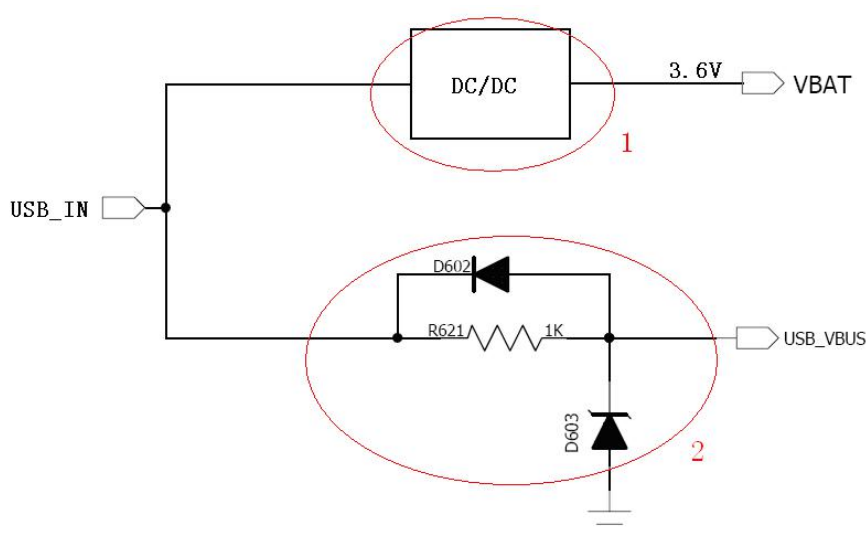

Figure2-8 The reference of voltage protection circuit
4) The USB interface input the voltage from USB_IN. For keeping the USB in U9507E module working unfaithfully, a voltage protection circuit should be added by user between the USB_IN of USB interface and the USB_VBUS PIN of U9507E. It is shown in figure 2-8 with the red circle 2. In the voltage protection circuit, D603 is a Zener diode with a breakdown voltage value of 5.1v which could keep the voltage on the USB_VBUS PIN of U9507E not more than 5.1v. D602 is a Schottky Diode, and R621 is a resistor with the value 1K Ω . On the other hand the voltage coming from the USB_IN also could be converted by using a DC/DC converter to 3.6v and then be sent to VBAT PIN of U9507E. It is shown in figure 2-8 with the red circle 1.
- 2) For avoiding the instantaneous voltage overflowing, the resistor with the reference value 22 Ω can be used for the DATA, CLK and RST. Just like the resistors R307, R308 and R309 in figure 2-8.
- 3) For avoiding the electro-static in USIM socket, it is recommended to use the ESD element to the DATA, CLK and VCC. Just like the voltage dependent resistors RV301, RV302, RV303 and RV304 in figure 2-8. And the ESD element should close to the USIM socket as close as possible.
C312 in figure 2-8, and their reference values are 33pF and 100nF.